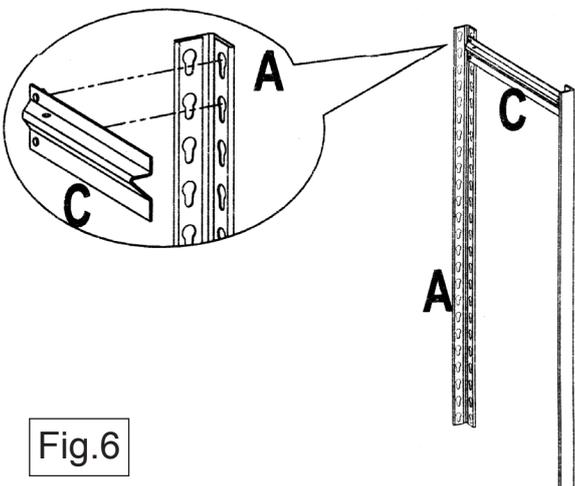

Fig.6
4.4 See Fig.6. Now make up an upper end frame by connecting two angle posts together at the top with a short 'Z' beam (C). Tap the beam at either end to ensure that the rivets are properly seated.